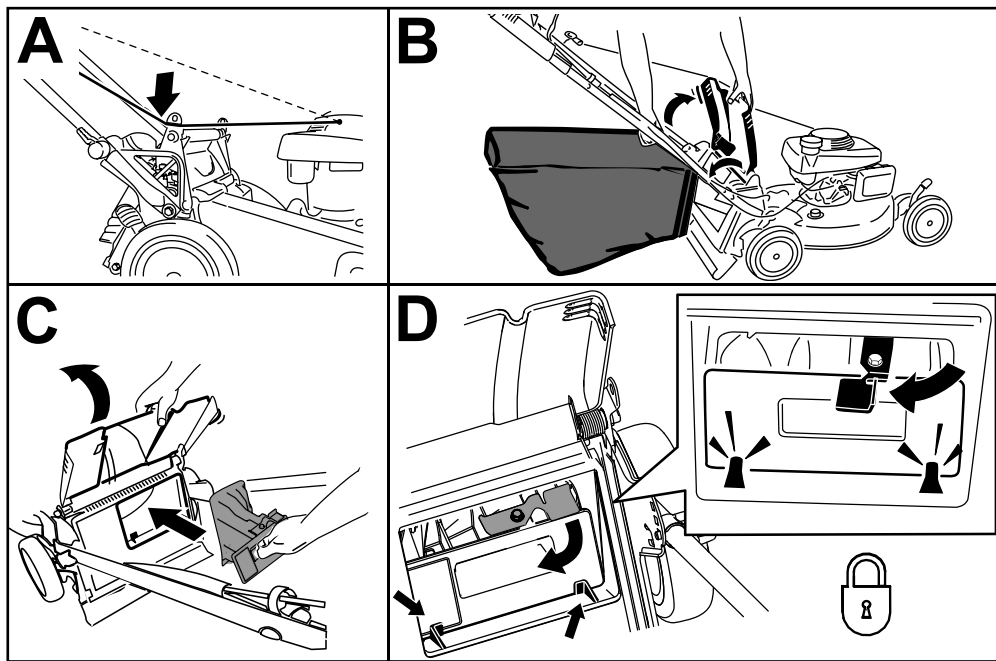

Figure 23
1. Route the starter rope around the lower-rope guide (A of Figure 23).
2. Raise and hold up the rear deflector and lift the grass bag up by the handle off the notches of the handle brackets (B of Figure 23).
3. Install the rear plug (C of Figure 23).
**Important:** Ensure that the rear plug is locked in place. To lock the plug, firmly push the plug in until it snaps into place behind the tabs, and rotate the lever on the plug to the left (D of Figure 23).